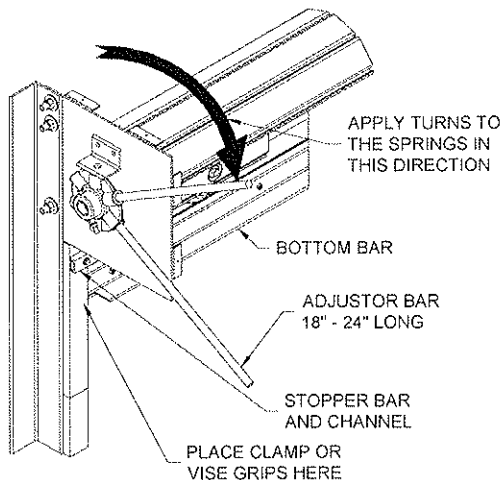

Figure 8.4 – Clamping the Guides. Applying Turns.
12. Since there is no spring tension holding the curtain open, the curtain may fall if released. If the operator cannot be used to hold the curtain in the open position, place C-clamps or vice grips, see **Figure 8.4**, on the guides just below the bottom bar -or- rest the bottom bar on the slings used to hang the shaft in the previous steps to hold the door open.